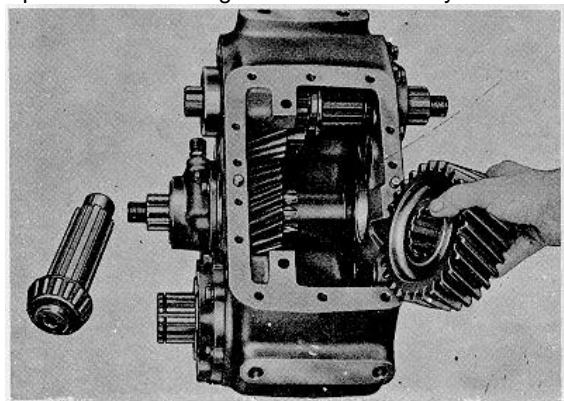

Fig. 14.
20. Remove Hi gear. Tap front bearing cup from case (Fig. 14).